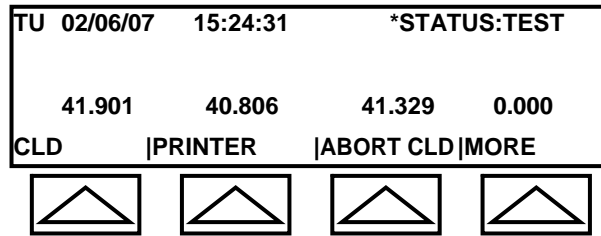

Fig. 5-2c: Test Submenu
- d. Select TEST. Testing begins and the LCD displays the TEST Submenu (see Figure 5-2c) where the results are displayed.